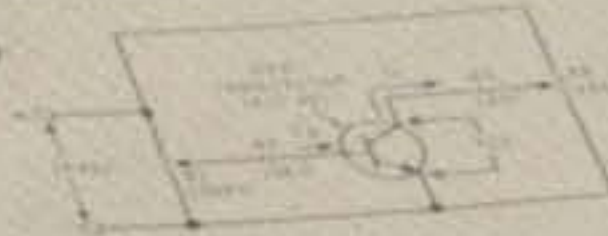

Figure 6-1
2. Construct the circuit shown in Figure 6-1 following the wiring diagram shown in Figure 6-1. Turn the positive (+) voltage control fully clockwise so that the full positive supply voltage will be applied to the 10 K ohm potentiometer (designated as  $R_1$ ) and the full value of the base current ( $I_B$ ) of the NPN transistor and potentiometer  $R_2$  will be used to control the transistor's collector-to-emitter voltage ( $V_{CE}$ ). Potentiometers  $R_3$  and  $R_4$  are used to limit the currents through the transistor's side voltage.